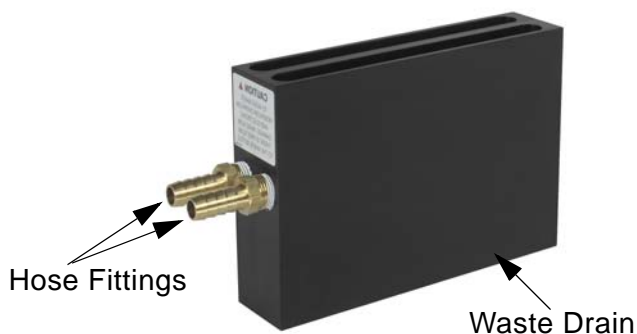

Figure B-5. Waste Drain
1. Locate and remove the waste drain (P/N 071362) from its shipping box in the Dionex AutoTrace 280 Ship Kit (P/N 071383) (see Figure B-5).